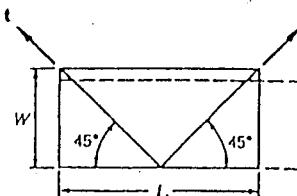

Fig. P2.37
2.37. A thin rectangular plate is deformed uniformly into another rectangle as shown in Fig. P2.37. It elongates 10 per cent of its original length and contracts 3 per cent of its original width. Compute approximately the shear strain γ_{uu} .